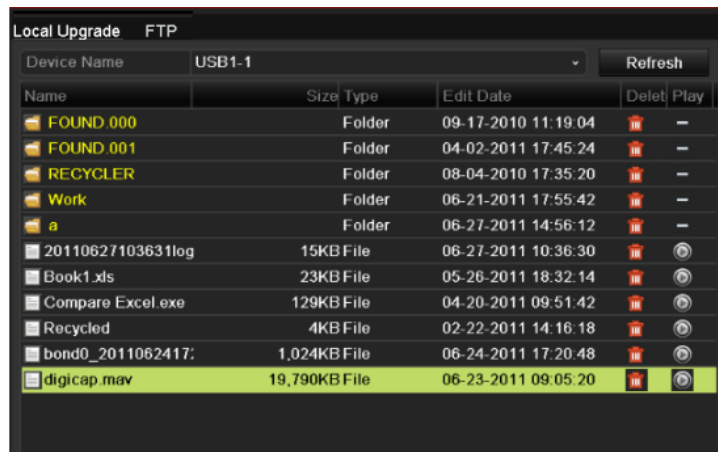

Figure 12. 9 Local Upgrade Interface
2. Click the **Local Upgrade** tab to enter the local upgrade menu, as shown in Figure 12. 9.